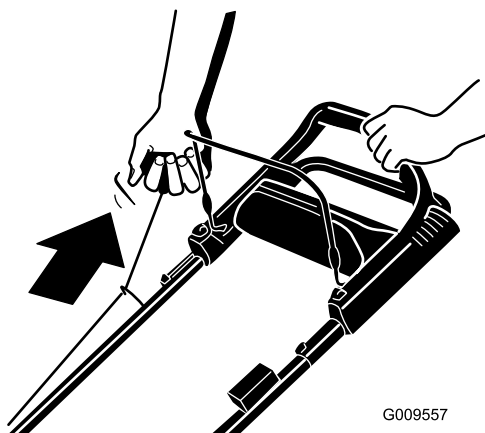

Figure 18
1. Pull the recoil starter lightly until you feel resistance, then pull it sharply (Figure 18). Allow the rope to return to the handle slowly.